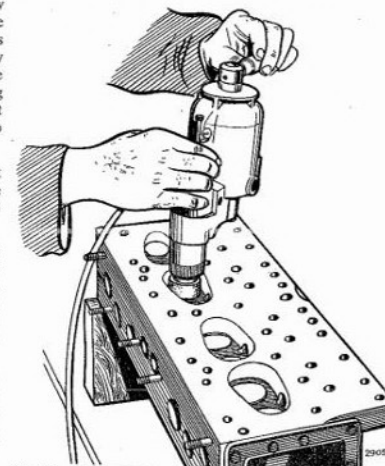

Fig. B.9. Re-grinding the cylinder head valve seatings, using the Hall Eccentric Valve Seat Grinder
2. **To Re-grind.** The valve seats in the cylinder head should be re-ground accurately using preferably the Hall Eccentric Valve Seat Grinder, as shown in Fig. B.9,
Turn the feed adjusting screw until the grinding wheel just clears the valve seating and then balance the grinder by means of the compensating handle (see Fig. B.9).